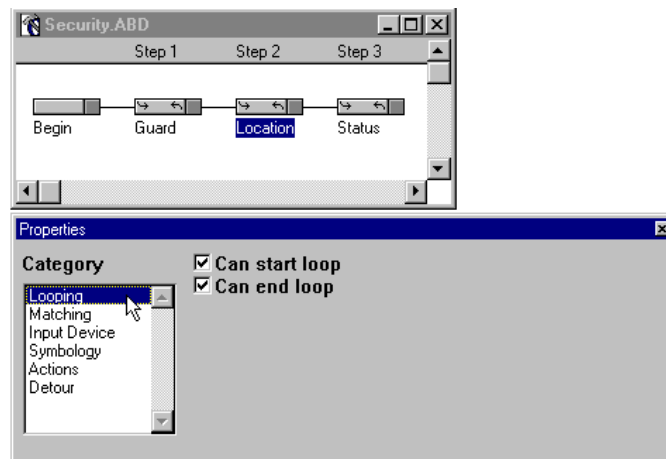

Figure 3-32 “Location” Handler - Looping Property
28. Select **Looping** from the **Properties** window **Category** list (Figure 3-32).